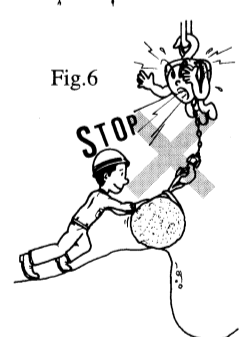

Fig.6
7) Do not give an impact to the chain hoist. Severe accident may happen, if a load suddenly falls regardless of the height and gives a shock to the chain hoist. (Fig.6)